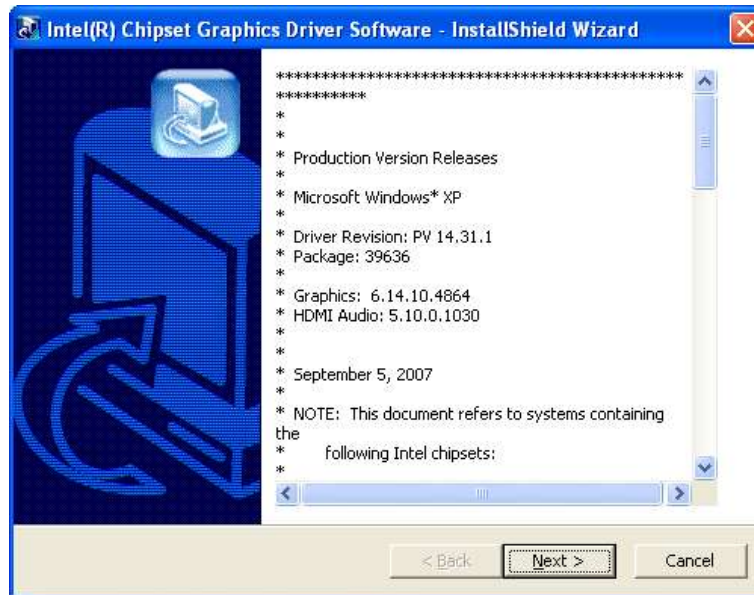

Figure 7-9: Intel® Graphics Media Accelerator InstallShield Wizard
Step 5: The information file shown in Figure 7-9 appears.